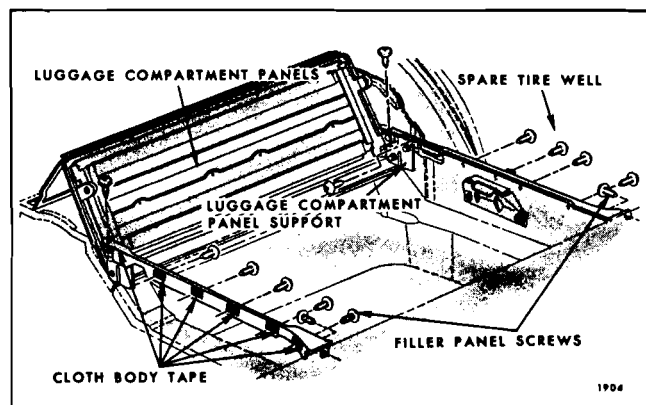

Fig. 15-70—Rear Compartment Pan Side Filler Panels
1. On "35" Styles, use handle and fold rear luggage compartment panel forward until it is resting entirely on front luggage compartment panel (Fig. 15-70).
5. Along inboard and outboard side facing of right and/or left panel, remove screws which secure panel to panel supports (Fig. 15-70) and remove panel(s) from body.
over all screw attaching holes. (See Fig. 15-70).
2. Fold combined front and rear luggage compartment panels to "up" or half open position. (See Fig. 15-70).